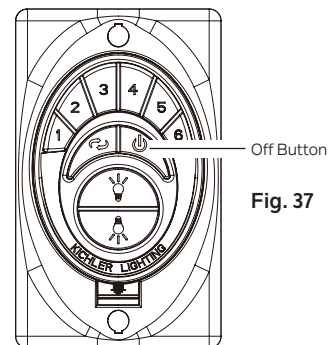

Fig. 37
Step 1. Restore power to the ceiling fan branch circuit at the circuit breaker or fuse box. Within 30 seconds of restoring power, press and hold the "OFF" button on the transmitter for 5 seconds. (Fig. 37) The light kit (if installed) will blink once, and the fan will beep 3 times, then run for approximately 1 minute. The light kit (if installed) will blink twice, and the fan will beep 4 times, to signal that the fan control setup process is complete.